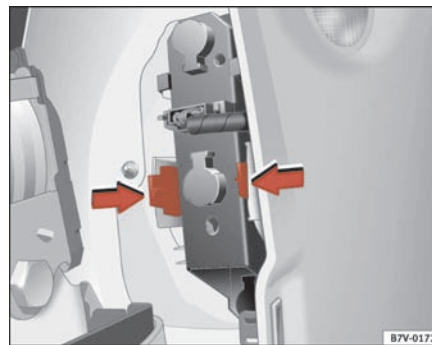

Fig. 166 Lights on vehicle body
- Press the side tabs in the direction of arrow ⇒ fig. 166.